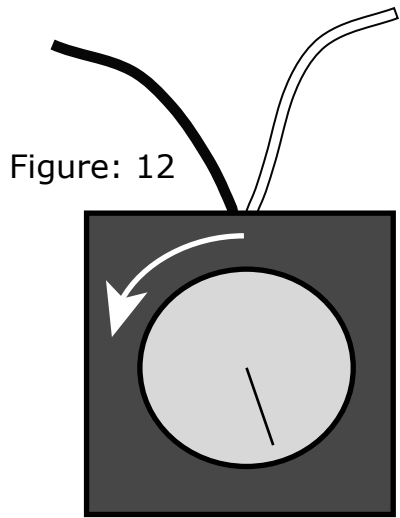

Figure: 12
Lay cord set on floor and connect wires (Figure: 1). Plug Power Cord into "Live" Outlet. Test Blower operation by placing flame to Silver Disc of Heat Sensor for 10 seconds. Verify Speed Control in "ON" Position (Figure:12).
- Turn the dial to counter-clockwise to increase speed until it clicks off, turn right to reduce speed. (Figure: 12)
- You may want to wait and run blower a few times to see where you would like to mount the variable speed control. The speed control must be in the ON position in order for the blower to run (Figure: 12).